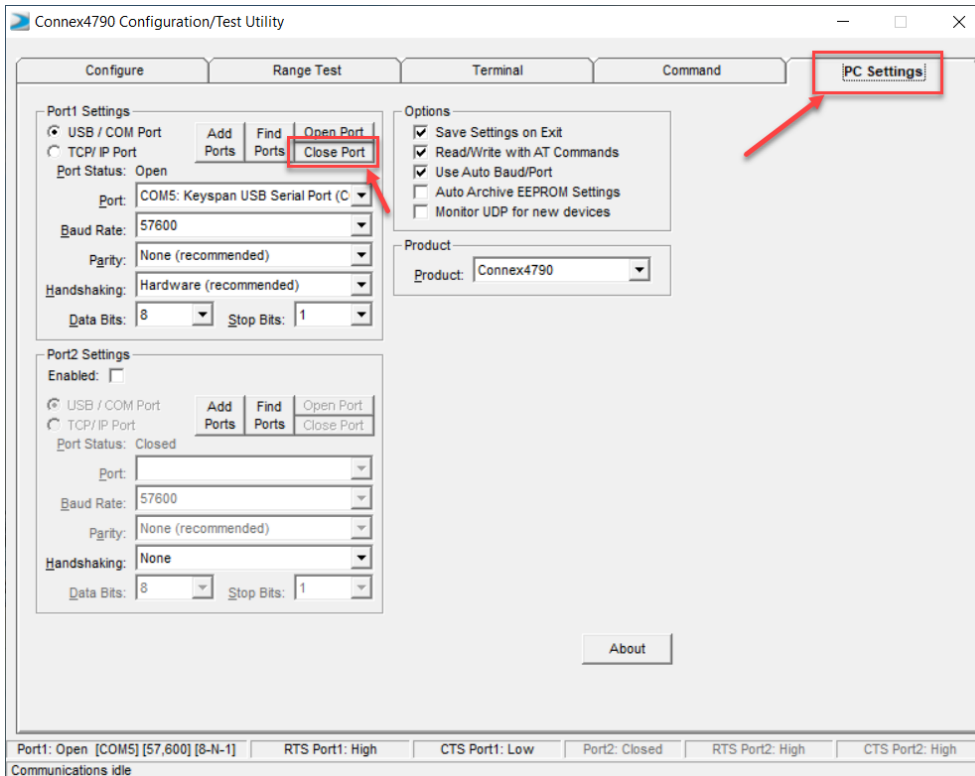

Figure 19: Close port
- Return to PC Settings Tab and Click **Close Port** (Figure 19).